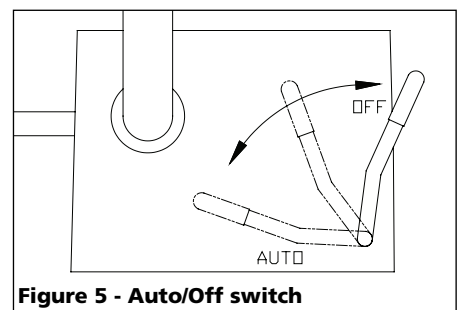

Figure 5 - Auto/Off switch
- **Pressure Switch - Auto/Off Switch** (Figure 5) - In the **AUTO** position, the compressor shuts off automatically when tank pressure reaches the maximum preset pressure. In the **OFF** position, the compressor will not operate. This switch should be in the **OFF** position when connecting or disconnecting the power cord from the electrical outlet or when changing air tools.